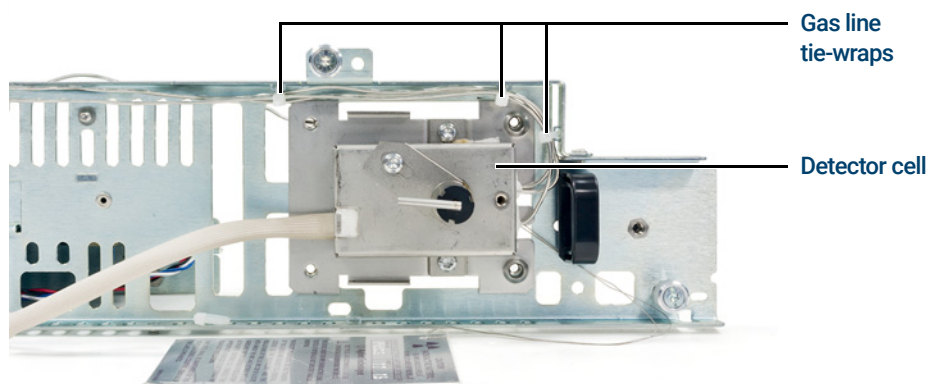

Figure 26. Gas line tie-wraps
- 41 Cut the three tie-wraps securing the gas lines to the detector module assembly. See **Figure 26**.